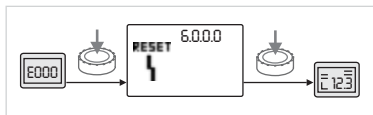

Fig. 50: Acknowledging error type E or F
- If type E or F errors occur, proceed as follows to acknowledge (Fig. 50):